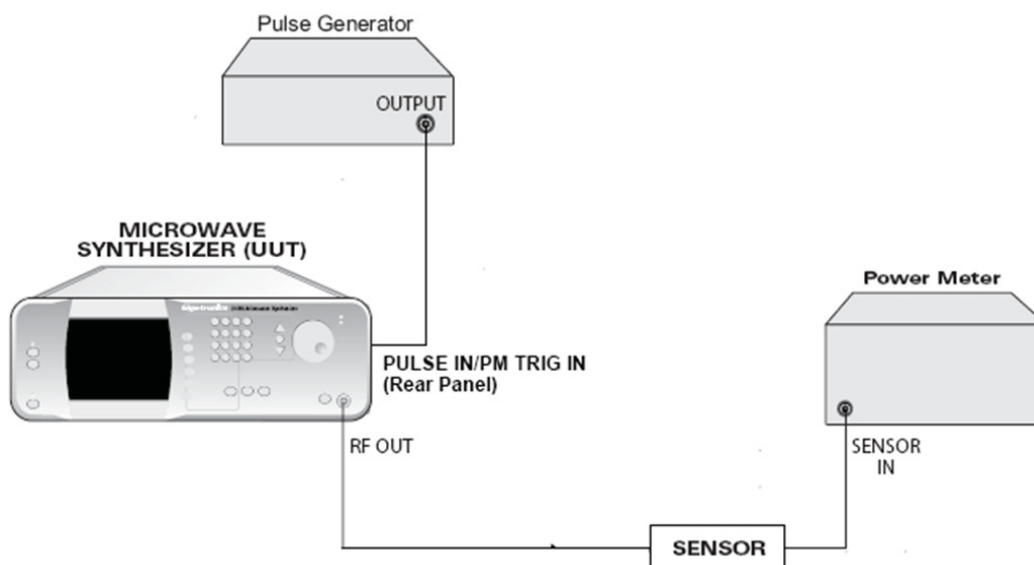

Figure 55: Pulse Modulation Level Accuracy Test Setup
2.	Connect the equipment as shown in Figure 55 on page 126.